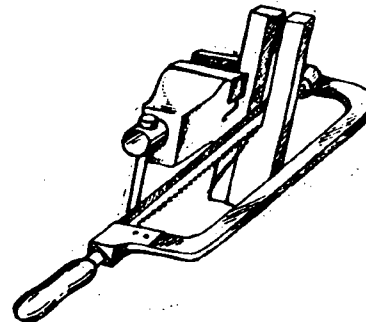

Fig. 8
2. For long cuts, mount the saw blade as shown in Figure 8.